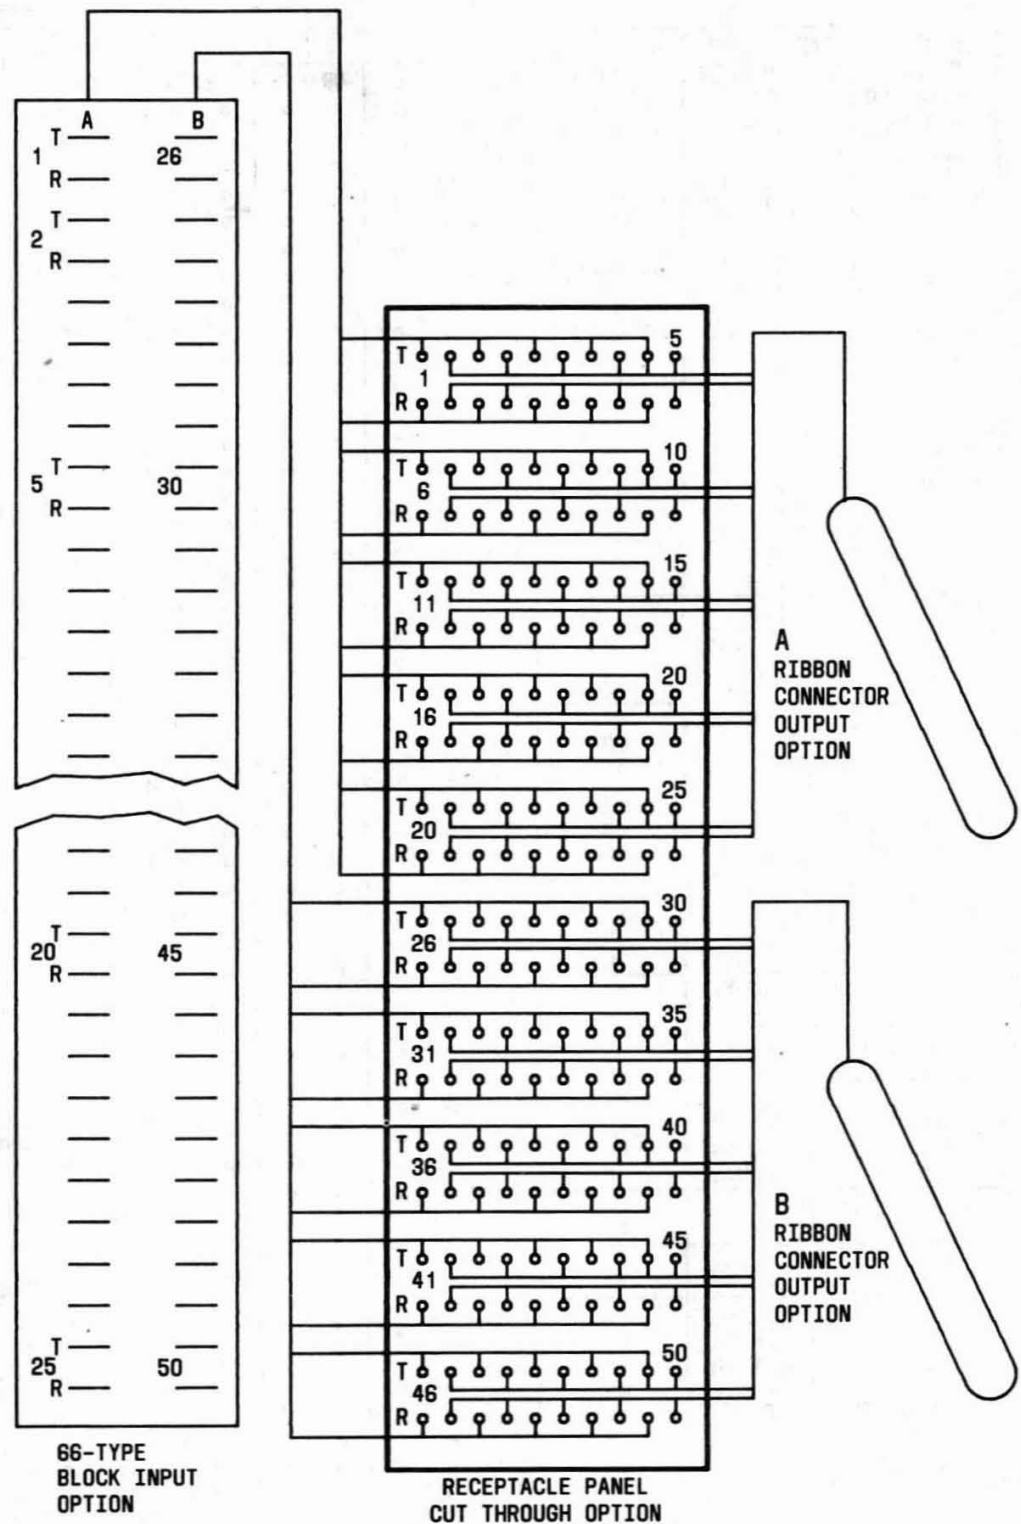

Fig. 6—Wiring of 700A-66-P1-50 Jack
3.06 The 700A-66-P1-50 jack uses plug-in units for cut-through option. The plug-in unit has a key way to aid proper insertion into the panel and prevent improper insertion. The plug-in units will be installed in the panel to coincide with input pairs as shown on Fig. 6 and as needed for service orders. The 79A fuse is used where sneak current protection is needed and the 4C12C protector (dummy) where protection is not needed.